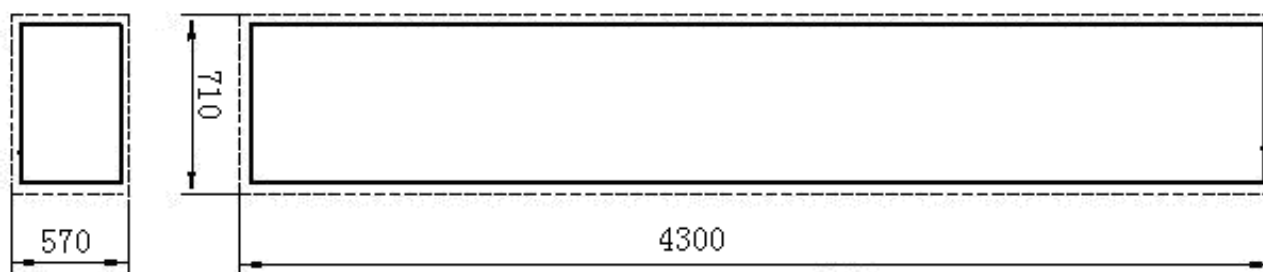

Figure 1
**Packaging dimension** (As shown in figure 1)